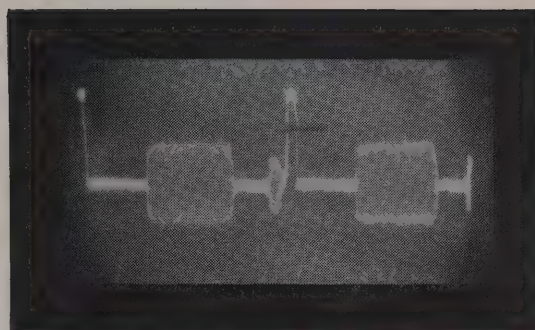
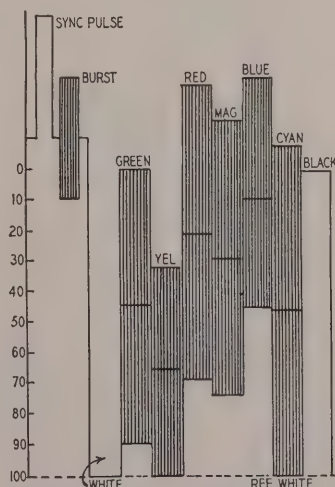

Fig. 6—Luminance component on scope.
Fig. 7—Standard NTSC color-bar signal, obtained by superimposing the chrominance signal on the luminous signal.
scope. Note that this chrominance signal is centered on black level—the signal has no Y voltage. Fig. 6 shows a Y signal as it appears on the screen of a scope. When luminance (Y) and chrominance voltages are added, the result is a complete (NTSC) color signal as shown in Fig. 7.